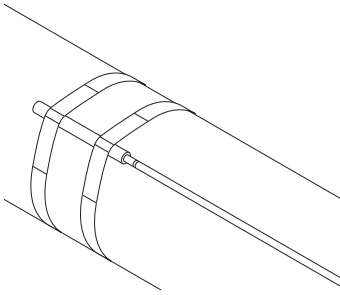

Figure 7: Mounting temperature sensing on pipe
- The correct position is on top of the pipe. (Figure 7)
- Use two bands of glass tape to ensure its position. (Figure 7)